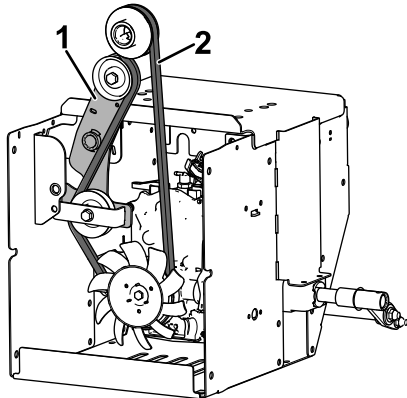

Figure 20
- A. Route the traction belt around the hydrostatic drive assembly (Figure 20).
- B. Install the 2 traction pulleys onto the crankshaft and route the traction belt between the pulleys (Figure 20).
7. **If reusing the traction belt**, route the traction belt as shown below (Figure 20).